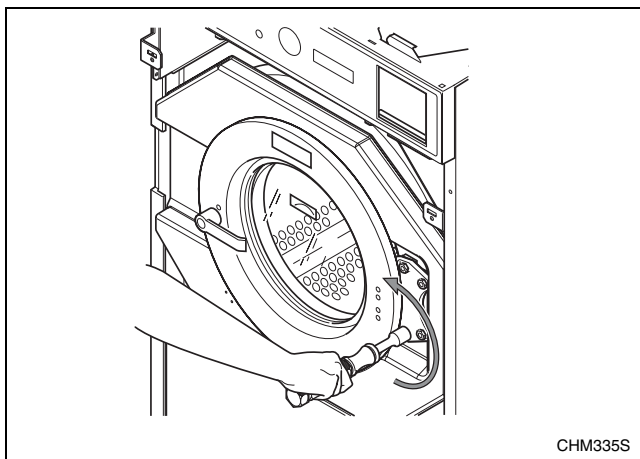

Figure 56
4. Reposition the handle to allow the locking pin to move properly. Begin by loosening the door hinge nuts with the door closed and the door handle latched. Refer to *Figure 56*.